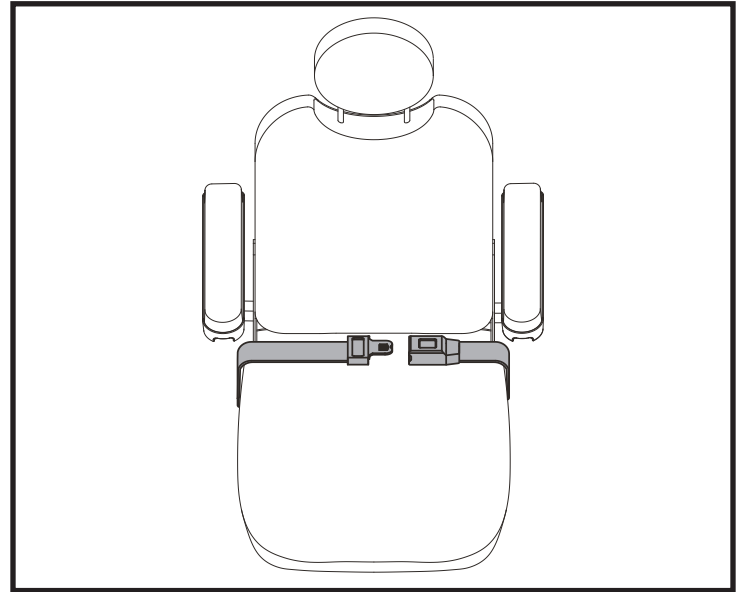

Figure 13. Positioning Belt Adjustment
Your power chair may be equipped with a positioning belt that can be adjusted for operator comfort. See **figure 13**. The positioning belt is designed to support the operator so that he/she does not slide down or forward in the seat. The positioning belt is not designed for use as a restraining device.
1. Once seated, insert the metal tab on one side of the belt into the plastic housing on the opposite side until you hear a click. See **figure 13**.